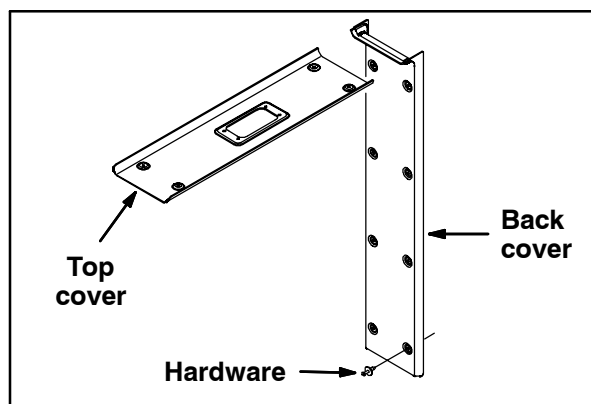

FIG. 1
1. Remove the top cover and back cover from inside the cab. Set the covers and hardware aside. Refer to Fig. 1.
46. Reinstall the top cover and back cover inside the cab. Refer to Fig. 1.